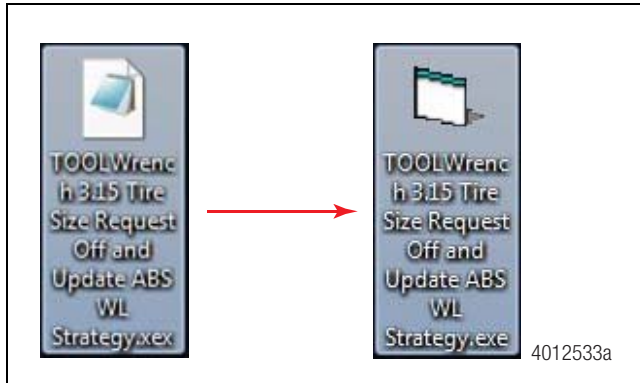

Figure 2
2. Select the file name and change the file extension from .XEX to .EXE. When finished, the file name will be "TOOLWrench 3.15.0 Tire Size Request Off and Update ABS WL Strategy.EXE". Figure 2.